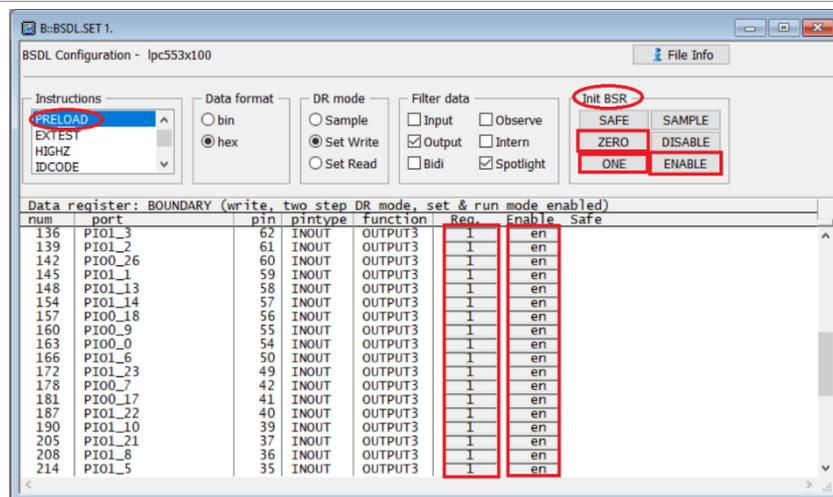

Figure 31. Preload IO output status
- Use **PRELOAD** test with **EXTTEST**. To enable and preset driving buffers to 1 or 0 of all IO pins, click **ONE** or **ZERO** and then **ENABLE** in the **Init BSR** field, as shown in Figure 31.